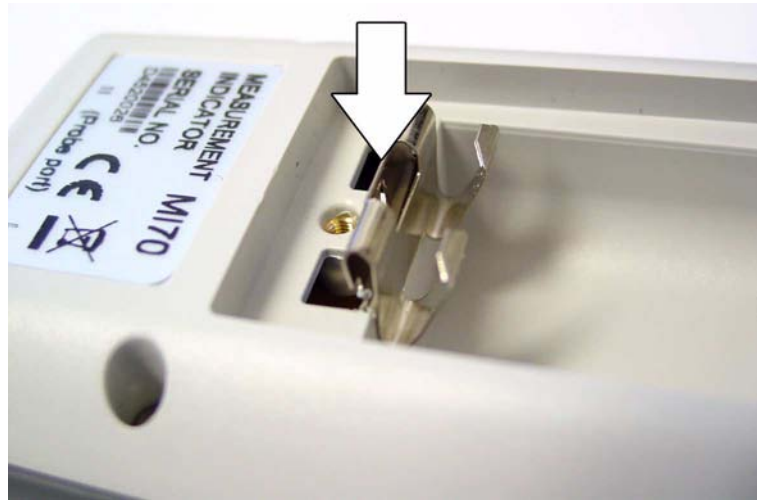

Figure 10 Installing the Clip for AA Batteries
2. Position the metallic clip as shown in Figure 10 on page 30, and push down on it to snap it into place. Note that you have to push quite hard.